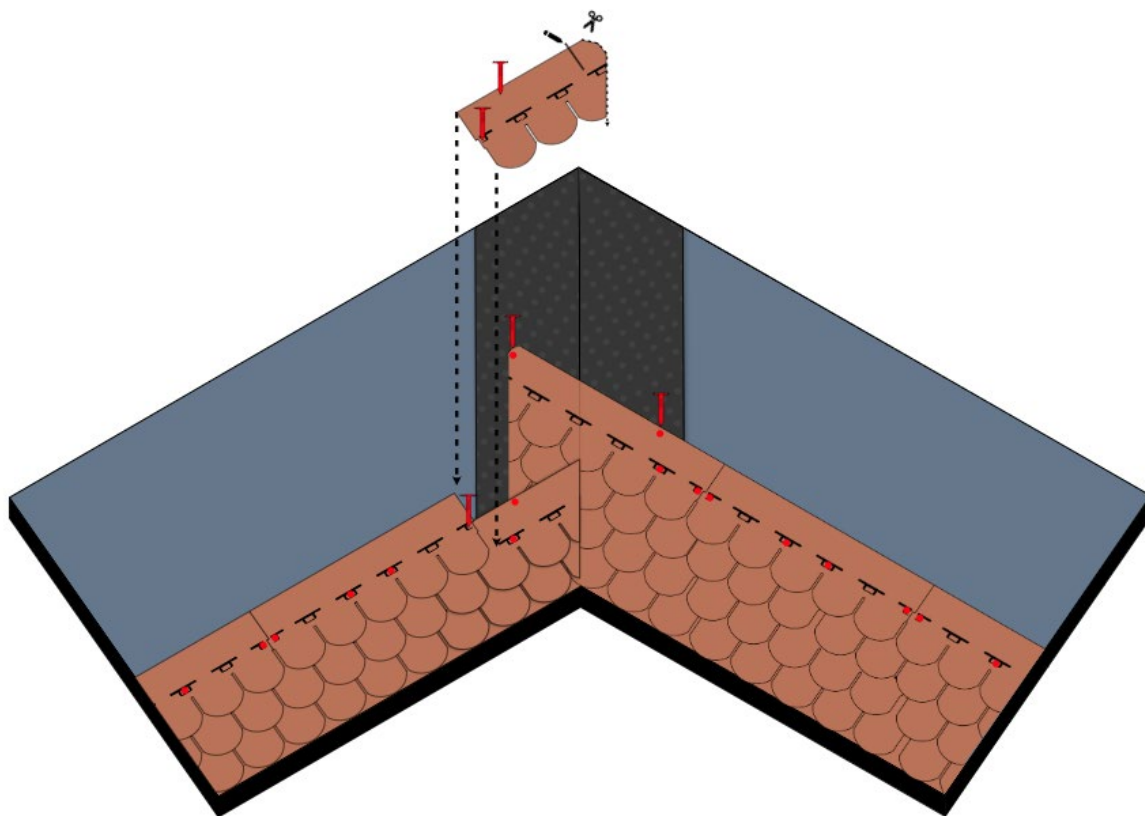

Fig. 13 - Shingles installation at valleys
- Once you have completed the first pitch for the entire length of the valley, move to the adjacent pitch. Start installing the shingles from the starting row and continue in successive rows. The last shingle in each row must reach at least the axis of the valley - Fig. 13.
- Cross-cut the top edge of the shingle at the valley - Fig. 13, so as to convey the descending water along the axis of the valley. Lift the shingles one at a time and fix them with the Bitustick- Fig. 13.